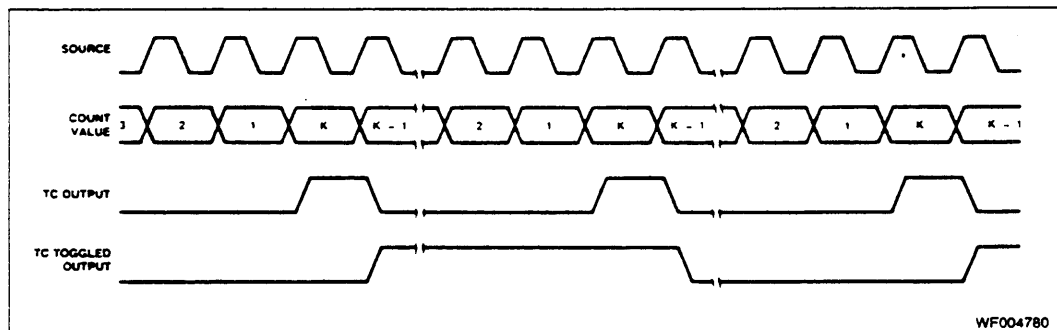

Figure 18. Counter Output Waveforms
One output form available is called Terminal Count (TC) and represents the period in time that the counter reaches an equivalent value of zero. TC will occur on the next count when the counter is at 0001 for down counting, at 9999 (BCD) for BCD up counting or at FFFF (hex) for binary up counting. Figure 18 shows a Terminal Count pulse and an example context that generated it. The TC width is determined by the period of the counting source. Regardless of any gating input or whether the counter is Armed or Disarmed, the terminal count will go active for only one clock cycle. Figure 18 assumes active-high source polarity, counter armed, counter decrementing and an external reload value of K.